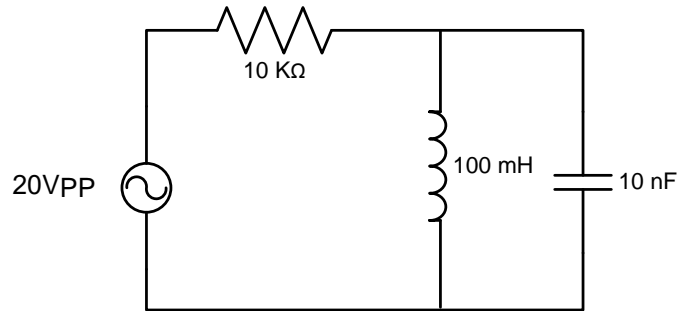

Figure 1
1. Using Figure 1 with $R_s = 10 \text{ k}\Omega$, $L = 100 \text{ mH}$ and $C = 0.01 \mu\text{F}$, determine the theoretical resonance frequency and Q , and record the results in Table 1. Based on these values determine the upper and lower frequencies defining the bandwidth, f_1 and f_2 , and record them in Table 1 also.
6. Build the circuit of Figure 1 using $R_s = 100\text{ k}\Omega$, $L = 100\text{ mH}$ and $C = 0.01\text{ }\mu\text{F}$ **and repeat steps 1 through 5 but using Tables 3 and 4.**